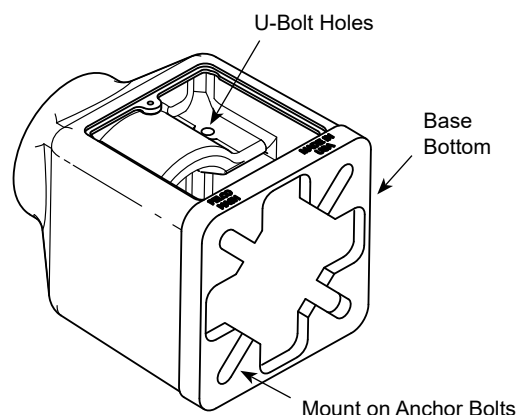

Figure 1
1. Place the base on its back so the door is facing up. Remove the door so the u-bolt holes are exposed. (Figure 1)